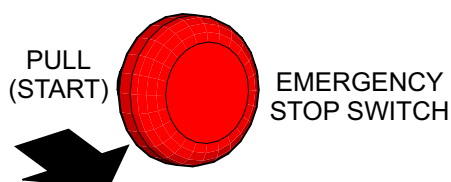

Figure 12. Kill Switch (OFF)
1. Before attempting to start the power buggy, make sure that the **emergency stop switch** (Figure 12) is not pushed in. The power buggy will not start with the emergency stop switch engaged. Pull the switch outward when starting the engine.